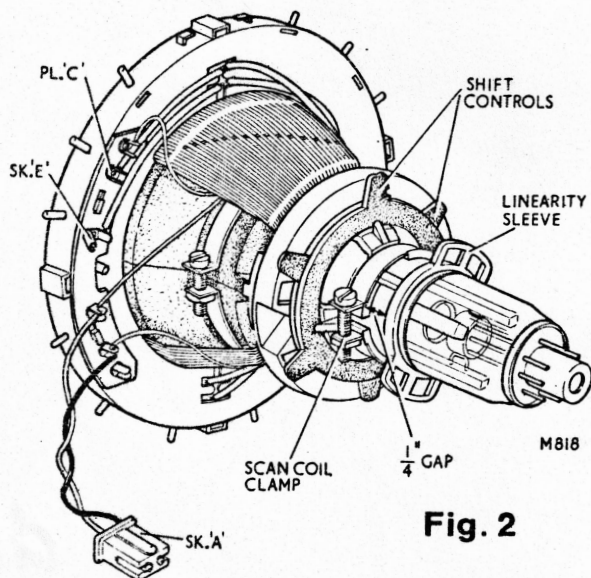

Fig. 2
3. Set the linearity sleeve so that there is a 1/4" gap between the black moulding on the sleeve and the moulding of the scan coils. See Fig. 2.